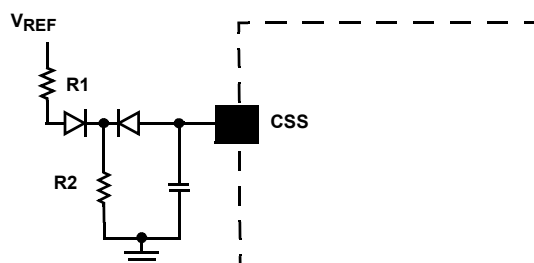

FIGURE 5. REFERENCE-BASED CLAMP CIRCUIT
- Per Equation 3, the clamping voltage is a function of the charge current I_{SS} . For a more predictable clamping voltage, the CSS pin can be connected to a reference-based clamp circuit as shown in Figure 5. To make the V_{clamp} less dependent on the soft-start current (I_{SS}), the currents flowing through $R1$ and $R2$ should be scaled much greater than I_{SS} . The relationship of this circuit can be found in Equation 4.